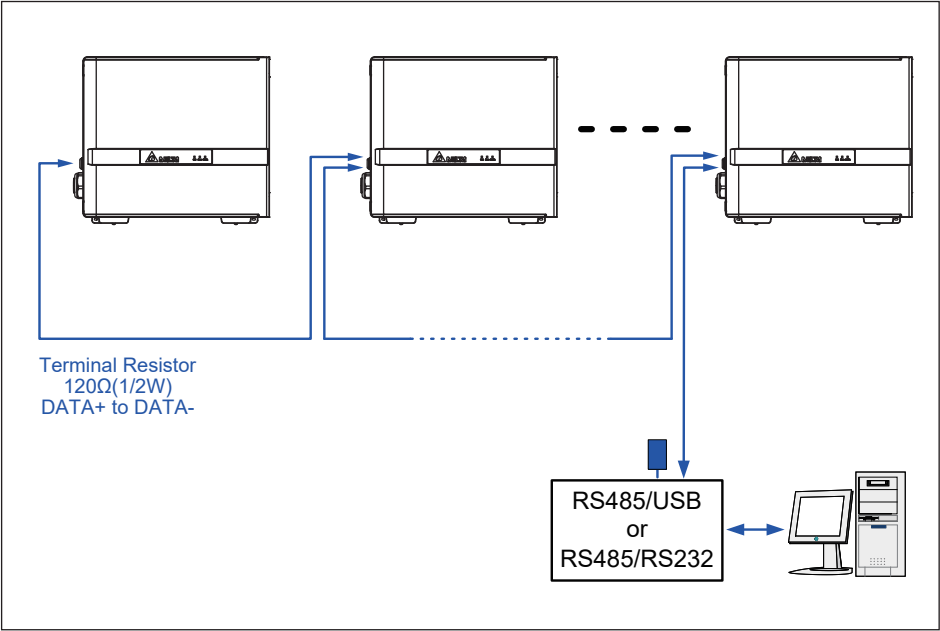

Figure 3-23: Multiinverter connection illustration
A 120ohm bus termination resistor and associated control switch are located on the communication board (**Figure 3-23**). **Table 3-3** shows the switch function. Different RS-485 connection scenarios require different set up for the 120ohm bus termination resistor.
- When several inverters are cascaded (i.e., "daisy-chained") only the last inverter in the chain must have its bus termination resistor switched ON (**Figure 3-23**).